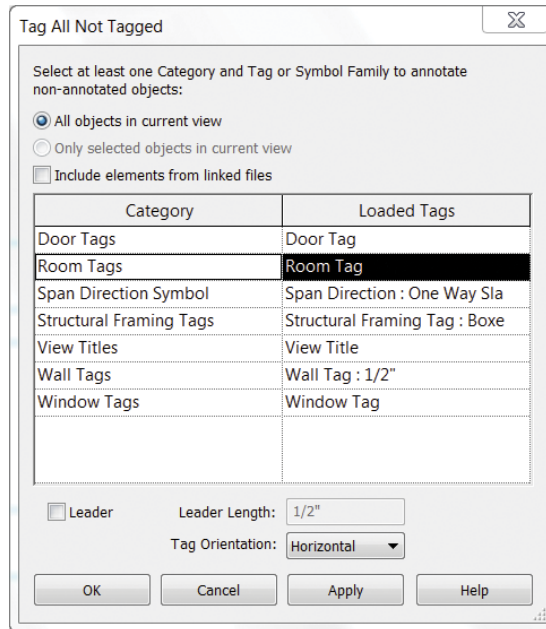

FIGURE 8.19 Adding room tags with the Tag All Not Tagged tool
- Select the Tag All tool on the Annotate tab's Tag panel. Doing so opens the Tag All Not Tagged dialog, allowing you to tag numerous element categories in a view simultaneously. You need to tag only rooms in this exercise, so select the Room Tags category, as shown in Figure 8.19, and then click OK.